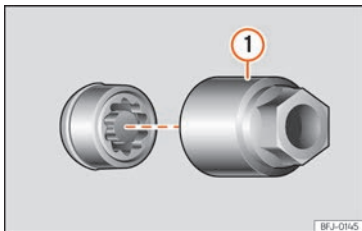

Fig. 43 Anti-theft wheel bolt with cap and adapter.
- Insert the special adapter »» Fig. 43 ① (vehicle tools »» page 44) onto the anti-theft wheel bolt and push it on as far as it will go.